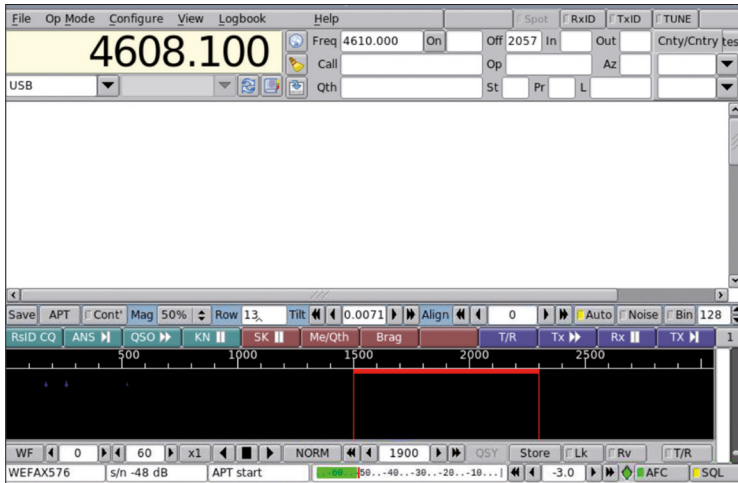

Figure 13.10: fldigi screen setup.
- Tune your wireless radio to 1.9 kHz below the transmit frequency, i.e. at 4608.1 kHz. Figure 13.10 shows the fldigi screen setup